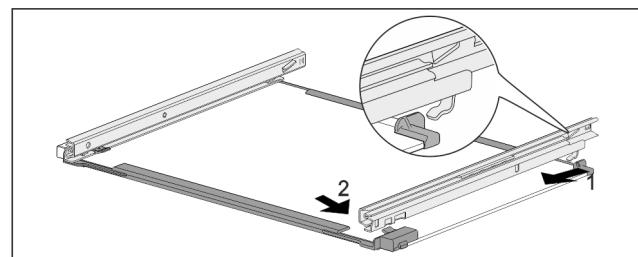

Fig. 165 Glass shelf with rails
- Hook in rail at the back. Fig. 165 (1)
- Hook in rail at the front. *Fig. 165 (2)*